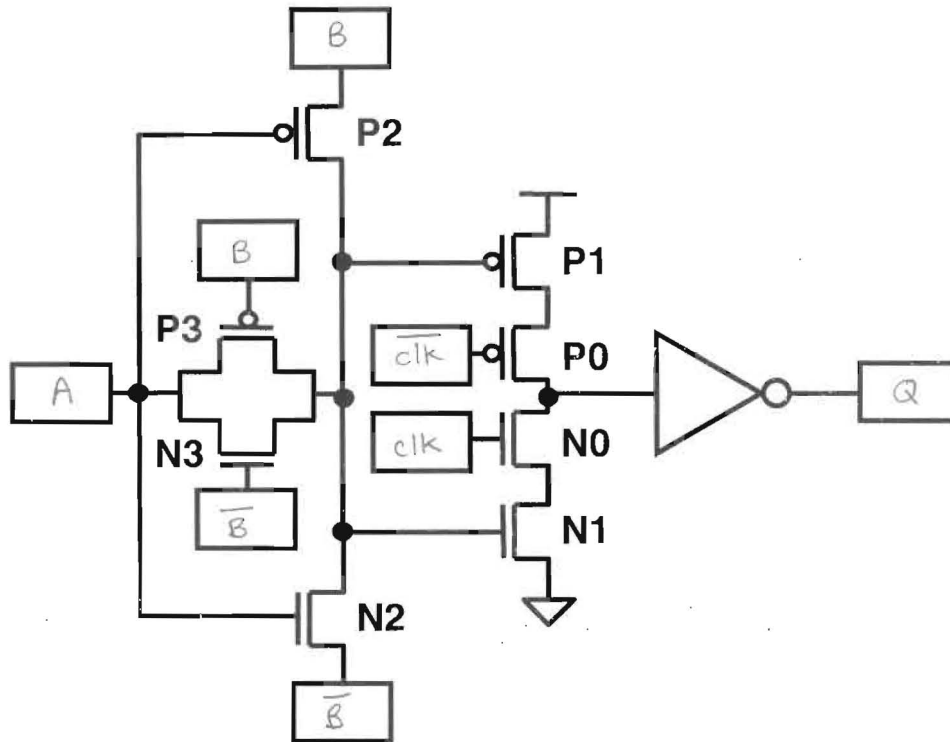

Figure 4: Combined Pass-Transistor Logic and Sequential Element.
**Problem 4.1 (4 points)** Fill in the appropriate labels in the boxes of Figure 4 for signals  $A$ ,  $B$ ,  $clk$ ,  $\overline{clk}$ , and  $Q$  the such that the circuit operates as a positive transparent latch whose output  $Q = A \oplus B$ . (Assume you have both the true and complement versions of inputs  $A$  and  $B$  available.)